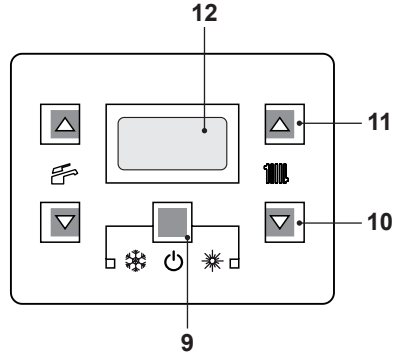
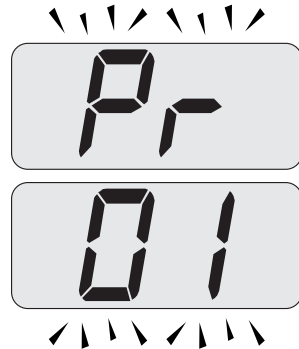

Fig. 8.7
Fig. 8.8
- Enter in "programming mode" by sequentially pressing and holding keys 9 - 10 - 11 (Fig. 8.7) for 10 seconds at the same time until the letters **Pr** that alternate with code 01 are displayed on the LCD display, indicating that "parameter 01, has been activated (Fig. 8.8).
- Press keys 9 and 11 (Fig. 8.7) at the same time until the value of parameter 15 (Fig. 8.10) is displayed on the LCD display.
- By pressing key 9 (Fig. 8.7) confirmation of the inserted value is obtained.
- Press keys 9 and 10 (Fig. 8.7) at the same time to exit without changing the value (return to the parameters list Fig. 8.9).
- Press sequentially keys, 9 - 10 and then 11 (Fig. 8.7) and hold in for 10 seconds to exit the "programming mode".
However, if the ambient temperature is not comfortable, the flow temperature of the heating system can be increased or reduced by $\pm 15^{\circ}\text{C}$ by pressing keys 10 (reduce) and 11 (increase) (Fig. 8.7).